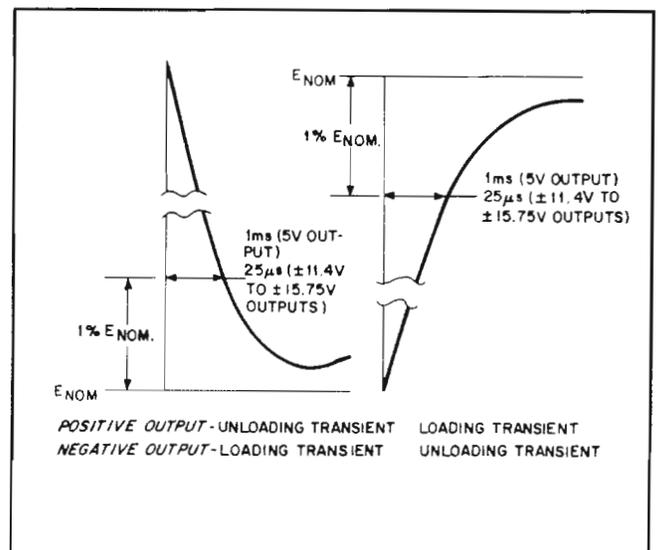

Figure 5-5. Load Transient Recovery Time Waveforms
c. Adjust the oscilloscope to display the loading and the unloading transients produced by the operation of the load switch. Recovery to within 1% of the nominal output voltage should occur within 25 microseconds as shown in Figure 5-5.
c. Adjust the oscilloscope to display the loading and the unloading transients produced by the operation of the load switch. Recovery to within 1% of the nominal output voltage should occur within 1 millisecond as shown in Figure 5-5.